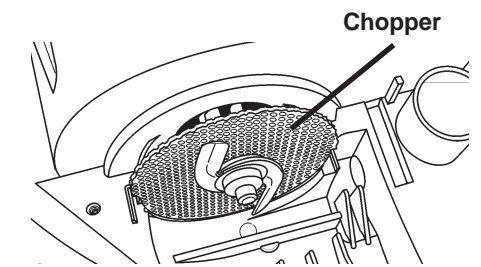

Fig. 3-29
5. Remove the chopper assembly from the impeller shaft and lift it from the sump base. (Fig. 3-29)